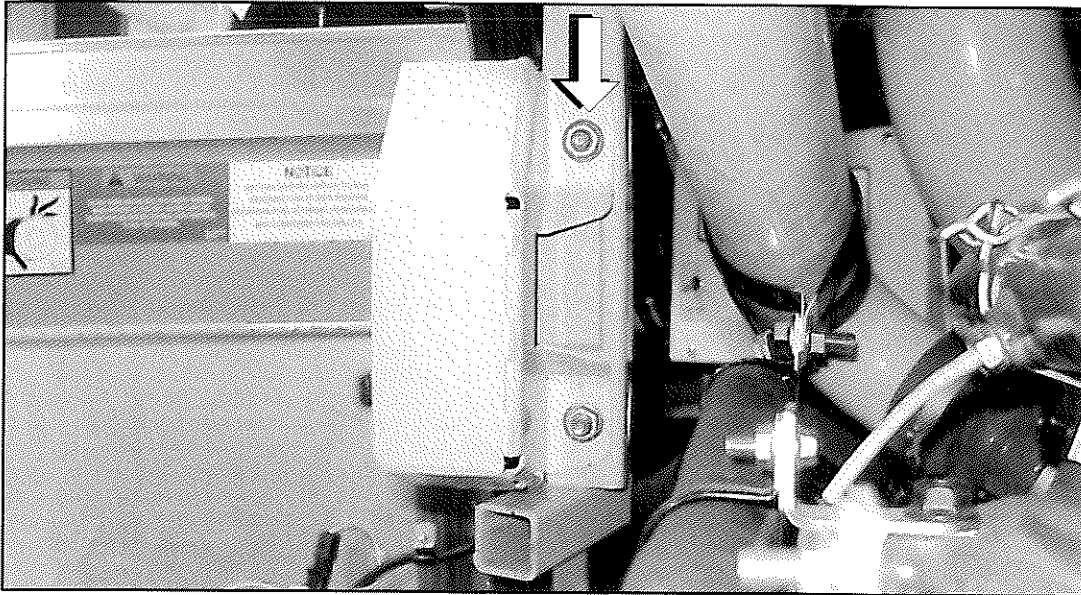

Figure 3.
5. Remove and retain the idler pulley cover mounting hardware (refer to Figure 3). Discard the existing idler pulley cover.